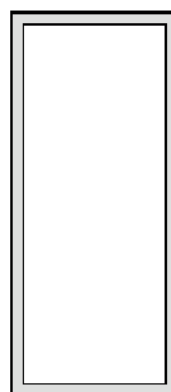

Figure 8: Solder paste application on pins
4. The aperture opening for the signal pads should be between 50-80% of the QFN pad area as shown in Figure 8.